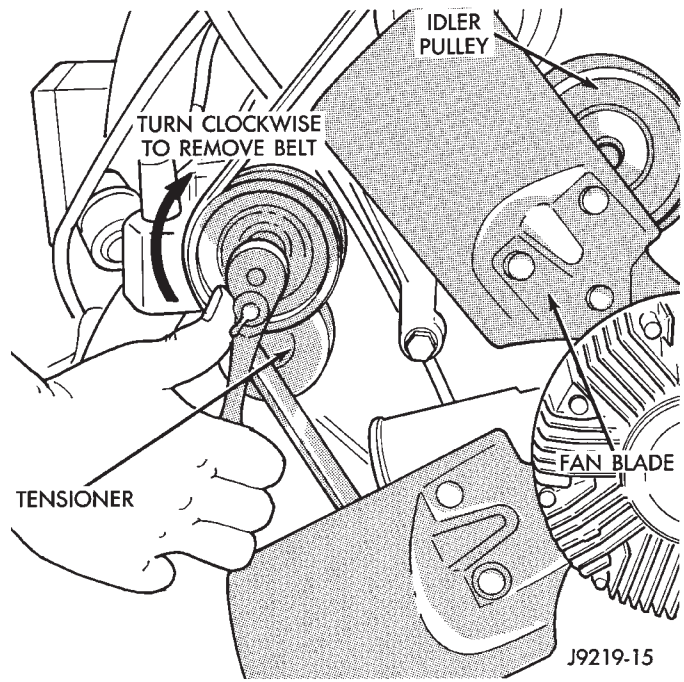

Fig. 42 Automatic Belt Tensioner—Belt Removal/Installation
Drive belts on both 3.9L and 5.2L/5.9L engines are equipped with a spring loaded automatic belt tensioner (Fig. 42). This belt tensioner will be used on all belt configurations, such as with or without power steering or air conditioning. For more information, refer to Automatic Belt Tensioner—3.9/5.2L/5.9L Engines, proceeding in this group.
(1) Attach a socket/wrench to pulley mounting bolt of automatic tensioner (Fig. 42).
(2) Rotate tensioner assembly clockwise (as viewed from front) until tension has been relieved from belt.
(1) Position drive belt over all pulleys **except** idler pulley. This pulley is located between generator and A/C compressor.
(2) Attach a socket/wrench to pulley mounting bolt of automatic tensioner (Fig. 42).
(3) Rotate socket/wrench clockwise. Place belt over idler pulley. Let tensioner rotate back into place. Remove wrench. Be sure belt is properly seated on all pulleys.
(4) Check belt indexing marks. Refer to the preceding Automatic Belt Tensioner—3.9L/5.2L/5.9L Engine for more belt information.
(1) Attach a socket/wrench to mounting bolt of automatic tensioner pulley bolt (Fig. 42).
(3) Remove belt from idler pulley first.
(4) Remove belt from other pulleys.
(5) Disconnect wiring and secondary cable from ignition coil.
(6) Remove ignition coil from coil mounting bracket (two bolts). Do not remove coil mounting bracket from cylinder head.
(6) Attach a socket/wrench to pulley mounting bolt of automatic tensioner (Fig. 42).
(7) Rotate socket/wrench clockwise. Place belt over idler pulley. Let tensioner rotate back into place. Remove wrench. Be sure belt is properly seated on all pulleys.
(8) Check belt indexing marks.